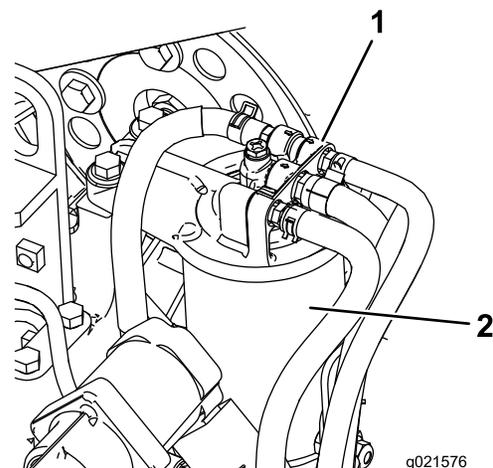

Figure 72
1. Clean the area around the fuel filter head (Figure 72).
2. Remove the filter and clean the filter head mounting surface (Figure 72).